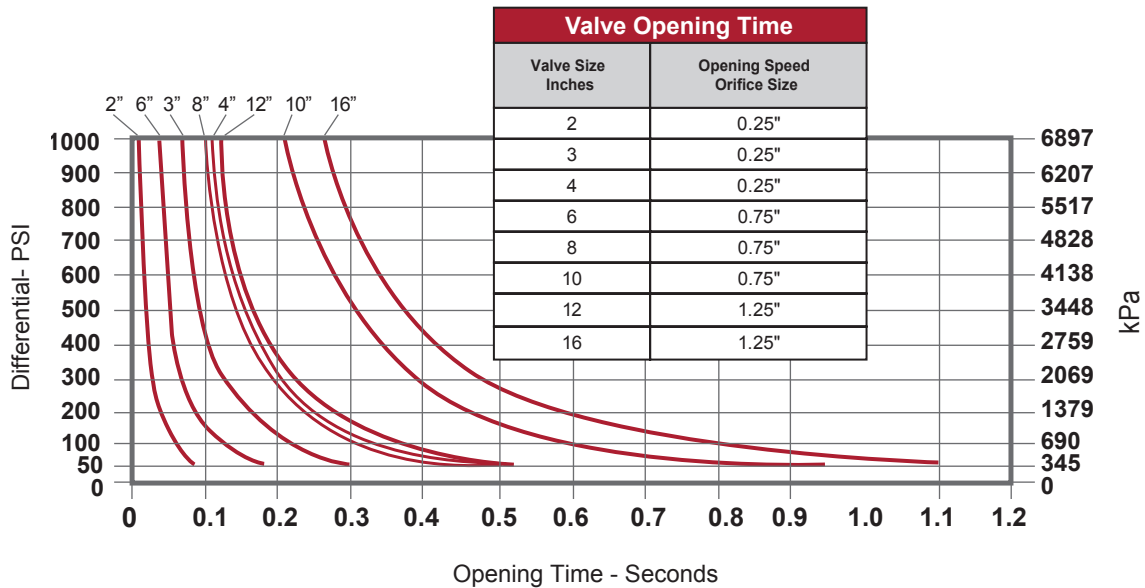

Figure 2: Typical Valve Opening Time
The opening speed of the valve is virtually unrestricted. Closing speed is standard at three (3) seconds from a full open position, based on gas pressure being 25 psi (1,724 kPa) above line pressure. The fastest closure is limited to 0.5 seconds at 1,500 psi (10,342 kPa) differential pressure to protect the piston and seat ring. For closure speeds longer than three (3) seconds, the orifice size can be changed to match customer requirements. It should be noted that the calculated closing speeds are a function of the viscosity of the oil in the reservoir. Typical valve opening times are illustrated in Figure 2.